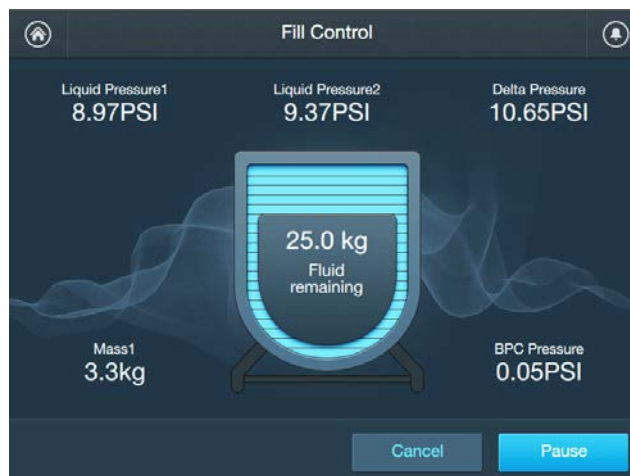

Figure 6.1. Fill Control screen.
4. After you have selected **Start Fill**, the pumps will turn on and begin filling the system with the user-specified amount of liquid. The screen that appears (Figure 6.1) will show the amount of fluid remaining, the current mass, the BPC pressure, and liquid pressure readings (for Liquid Pressure1, Liquid Pressure2, and Delta).